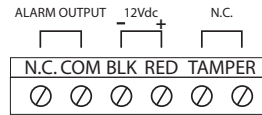

Figure 4: Terminal Board Wiring
Connect wires to terminal board (1) as per Figure 4.